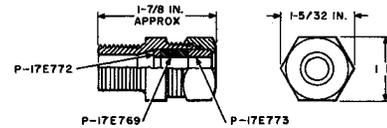

Fig. 3—200E Connector
4.03 The 200-type connectors (Fig. 3 through 5) have bodies and packing nuts which are identical. The different types are determined by the bushing and the spacers used. These bushings and spacers can be ordered as piece parts, and any type can be converted to another type by inserting the proper spacers and bushings. Table C lists the parts for each type. Figure 6 shows the dimensions of the bushings and spacers.